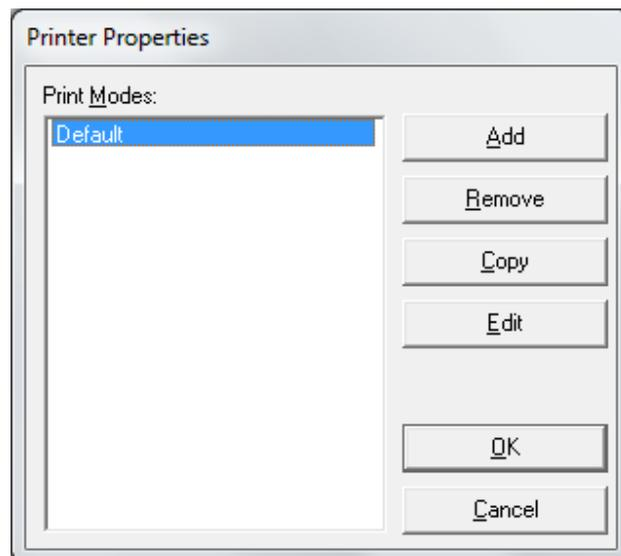

Fig 3-7
2. Click [Properties] to open Printer Properties (Fig 3-7).